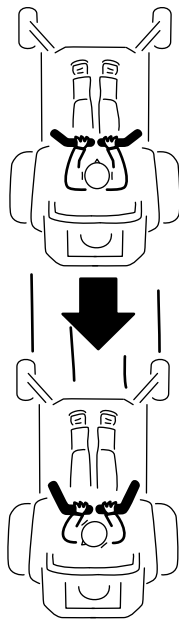

Figure 24
- To go backward, slowly pull the motion-control levers rearward (Figure 24).